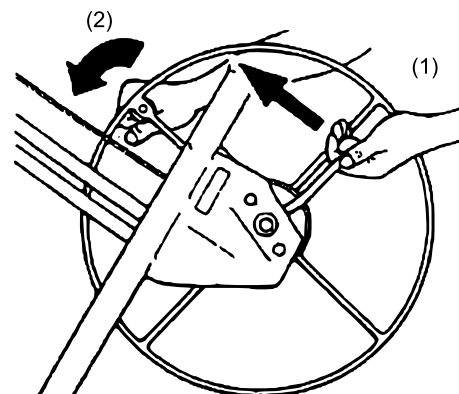

Figure 2
- a. Hold the winch wheel and brake arm as shown in Fig. 2 (1). Rotate the winch wheel forward slightly (2) while you lift on the brake arm to release the brake.